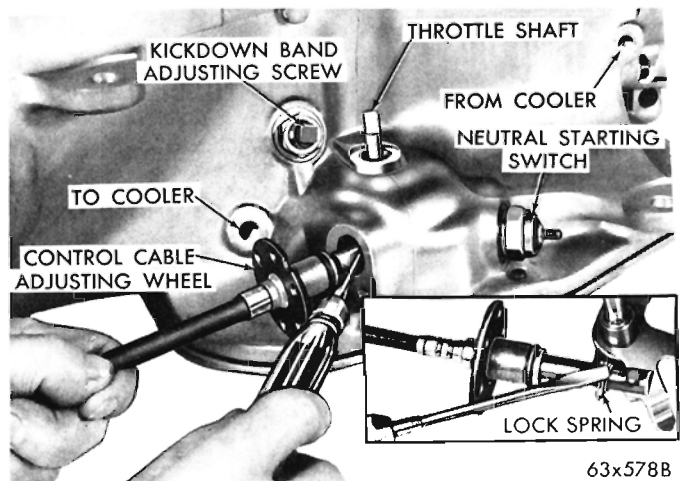

Fig. 26—Removing Gearshift Control Cable
(1) Place the selector lever in **PARK** position, and raise the vehicle on a hoist.
(2) Remove the gearshift control cable to transmission adjusting wheel lock screw. Pull the cable outward just enough to allow the fluid to drain into a container.
(3) Pull the cable out of the transmission case as far as possible, back off the adjusting wheel a few turns if necessary.
(4) Insert a small screw driver above and slightly to the right of the cable (Fig. 26). Disengage the cable adapter lock spring by pushing the screw driver handle to the right while pulling outward on the cable.
The kickdown band adjusting screw is located on the left side of the transmission case near the throttle lever shaft (Fig. 26).